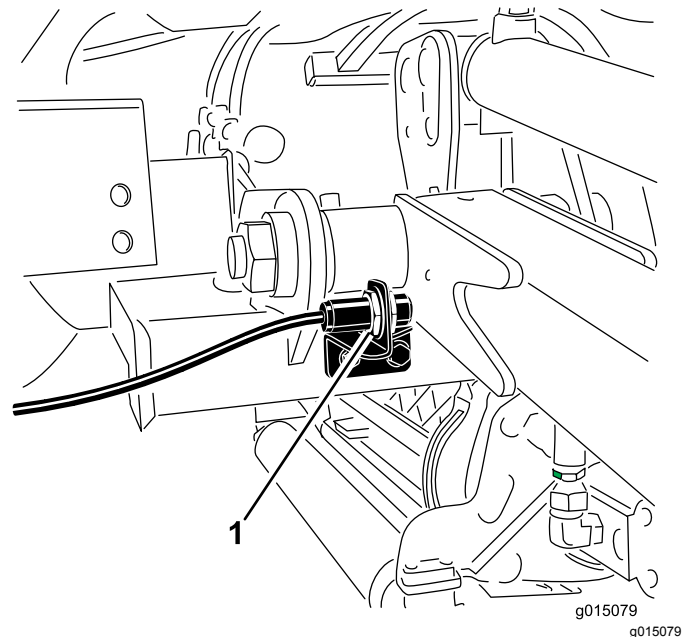

Figure 59
2. The lift-arm switch is located behind the front right lift arm (Figure 59).
3. Loosen the switch mounting screws (Figure 59) and move the switch up to increase the lift-arm